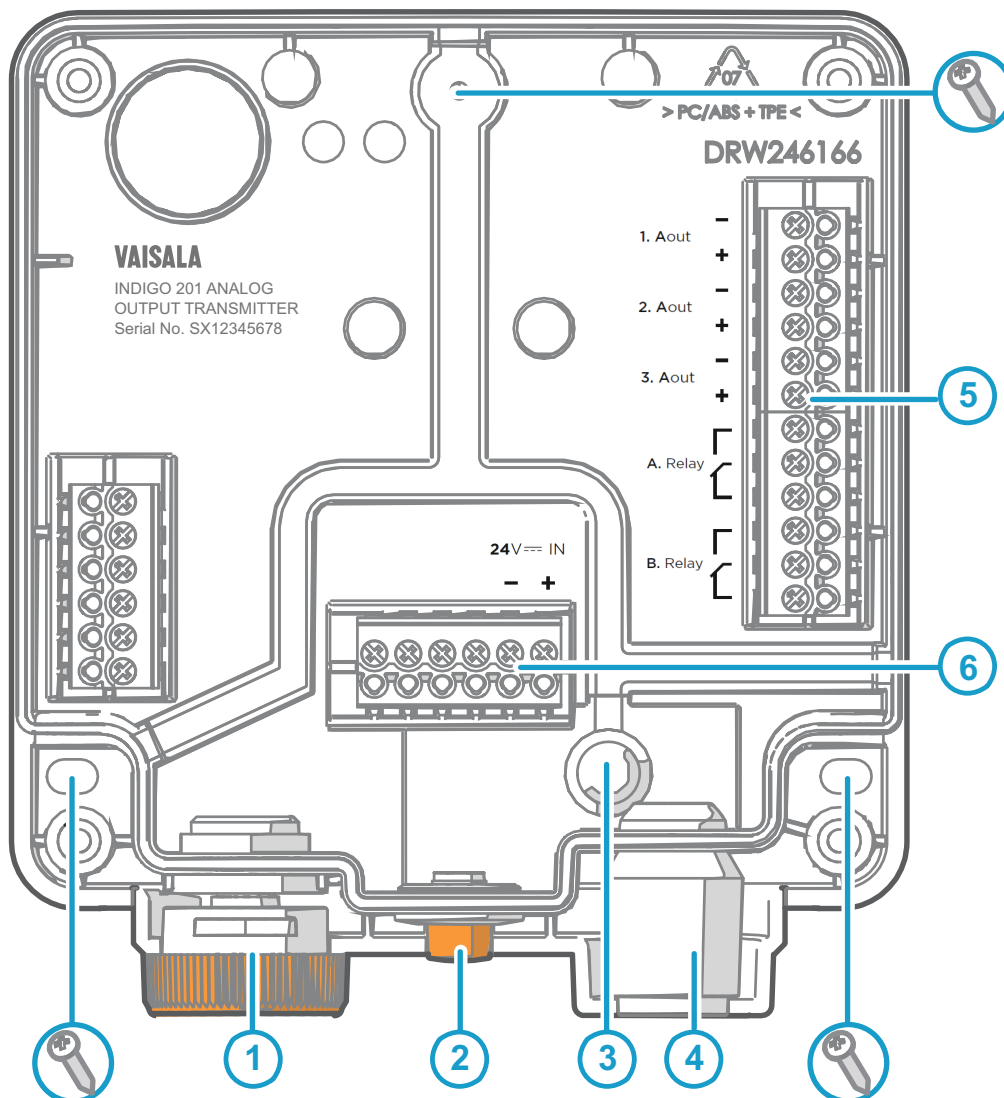

Figure 9 Indigo 201 Transmitter Base Main Parts and Screw Positions
4. Place the transmitter base on the installation surface and mount it with 3 screws. See the screw positions in Figure 9 \(page 20\).